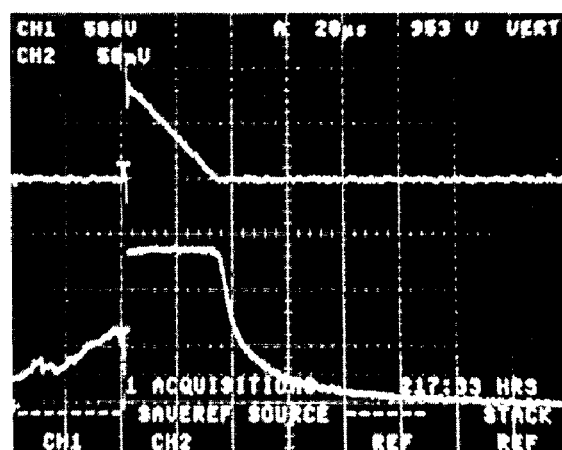

Figure 8. Current-Voltage Waveforms
The oscilloscope picture in Figure 8, shows the information obtained for the MUR8100E (similar die construction as the MUR4100E Series) in this test circuit conducting a peak current of one ampere at a breakdown voltage of 1300 volts, and using Equation (2) the energy absorbed by the MUR8100E is approximately 20 mJoules.